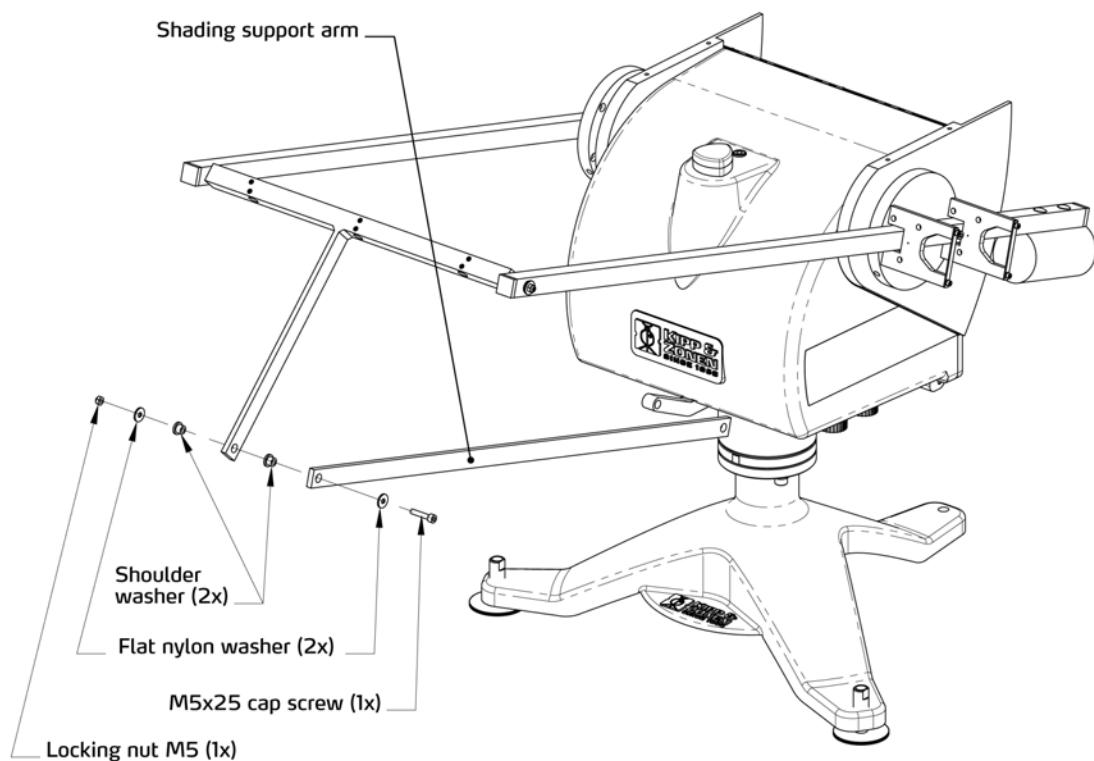

Figure 4.9: Mounting of shading support arm top part
- Install the the Shading support Arm to the T-Bar and Shading Pivot Bar hole with the nylon washers and locking nut shown in figure 4.9 and 4.10 Only tighten the locking nut to minimize clearances, ensure free rotational movement.